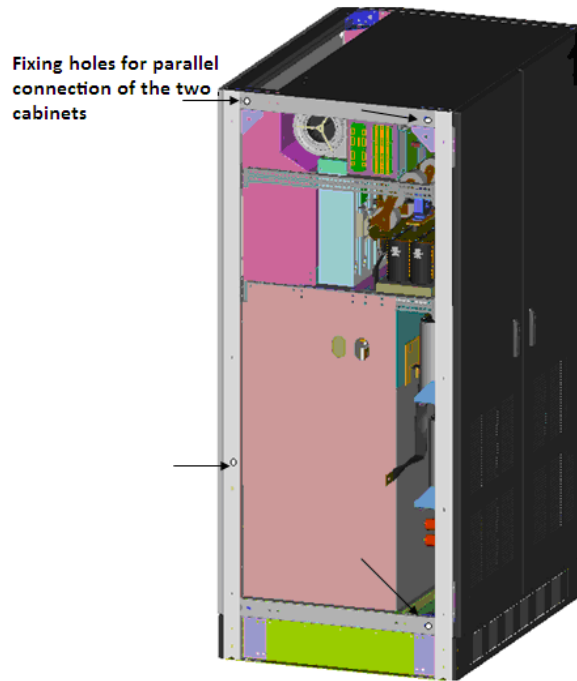

Figure 32: Schematic diagram of fixing holes for parallel connection of 400~600KVA UPS rectifier cabinet and inverter cabinet
2. Fixed installation: disassembly the back board of cabinets placed side by side. Fix the two cabinets together with screw rod at the "fixing holes for parallel connection of the two cabinets" (as shown in figure 32), and then fit on the back board.